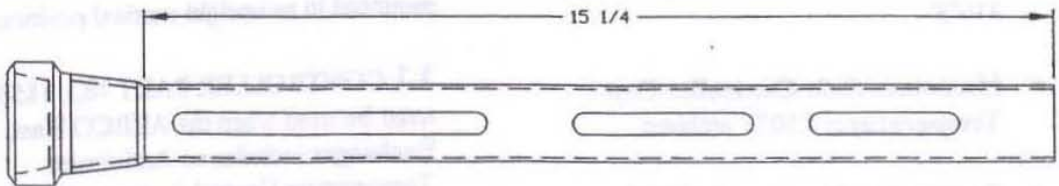

Figure 4 – THERMAL ELEMENT SUPPORT, AERCO PT. NO. 16558. Used with AERCO Heat Exchanger which does not include an AERCO Loadalert Temperature Control System.
3.2 CONTROLLER PART NO. 18557-2 must be used when the AERCO Heat Exchanger does not include an Anticipator System. A thermal element support, P/N 16558, is included and used with the thermal element inside the heater, (see Figure 4). This is typically utilized on units having side flange connections. When the support is furnished, insert it into the connection marked "Thermostat" on the top head of the Heat Exchanger (see the Heat Exchanger instructions or drawing). Then insert the thermal element bulb into the support. Make sure that both the bulb nut and support are water tight.